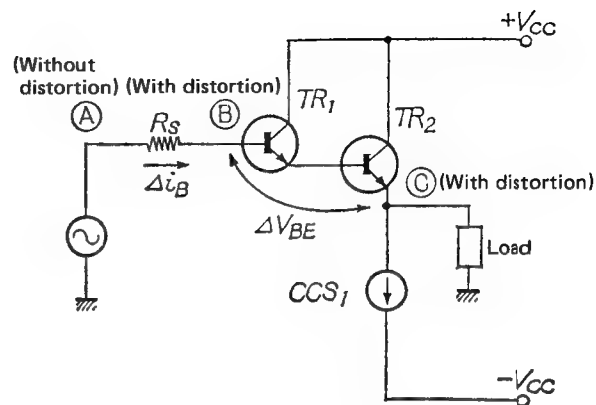

Fig. 2 Distortion in emitter-follower
In the power stage, the voltage, current and junction temperature (heat generation) vary acutely so that the current amplification factor (β) of power transistors or the voltage between base and emitter (V_{BE}) changes with distortion. Normally, in the emitter-follower, only the distortion (ΔV_{BE}) due to the exponential characteristic is noted (which occurs between ② and ③ in Fig. 2). As the power stage is not driven by a constant voltage, the distortion between ① and ② due to the non-linear portion of change of the base current (i_B) caused by β change cannot be ignored.